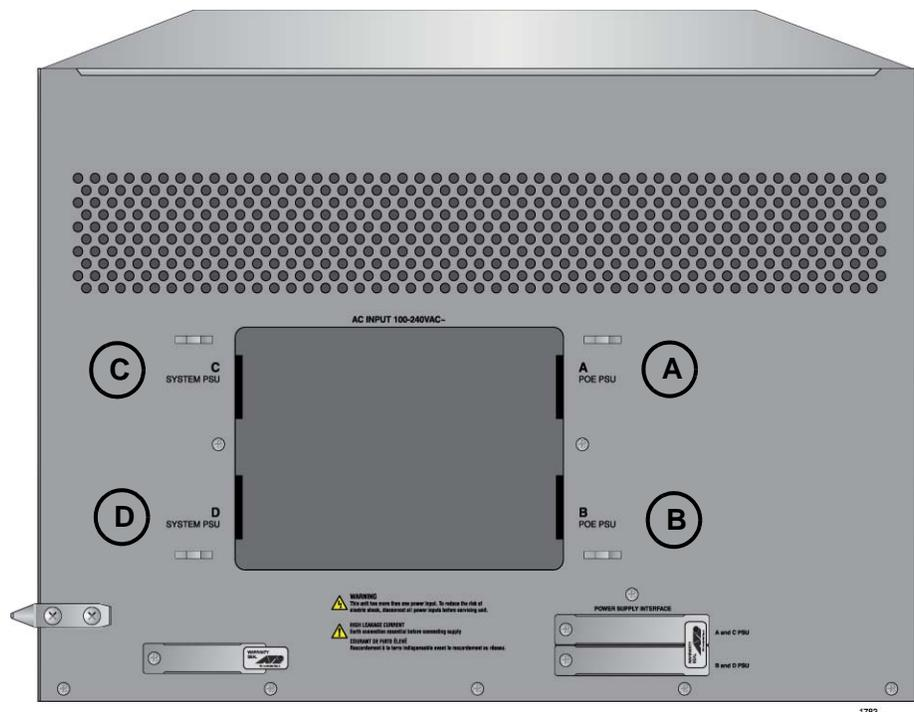

Figure 104. AC Sockets on the AT-SBx3112 Chassis Rear Panel
1. Identify AC sockets C and D in the recessed panel on the back panel of the chassis, shown in Figure 104. The sockets correspond to the system power supplies in slots C and D on the front panel of the chassis.
1. Identify AC sockets A and B in the recessed panel on the back panel of the chassis, shown in Figure 104 on page 169. The sockets are for the AT-SBxPWRPOE1 Power Supplies in slots A and B on the front panel of the chassis.